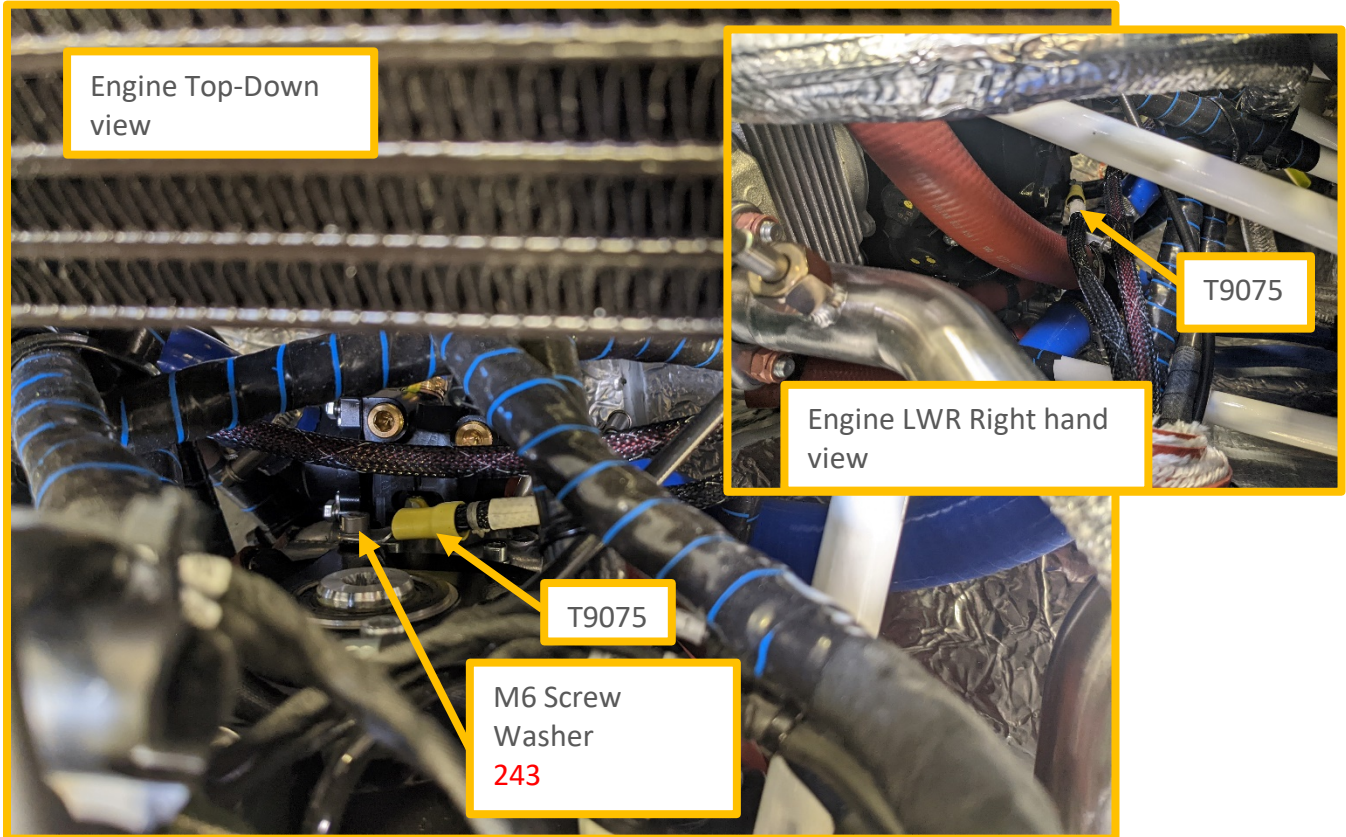

Figure 4 Engine Block Ground (T9075)
- iii. T9075 (Connected to Lower FWD Engine block GND) See Figure 4
- i. Connect ring terminal [**T9075**] from main wire harness to threaded boss on lower LH side of ignition housing on engine using the noted M6 hardware, see Figure 4.